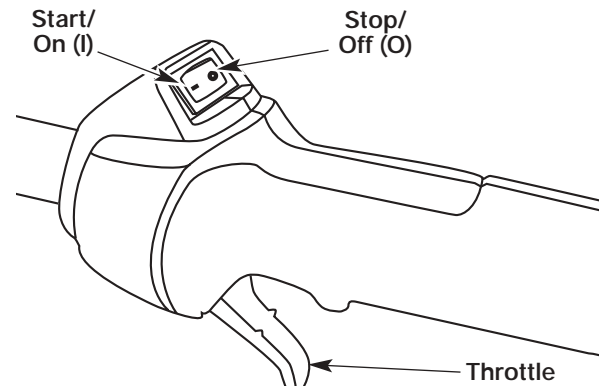

Fig. 3
2. Make sure the On/Off Stop Control in the ON (I) position (Fig. 3).
2. Put the On/Off Stop Control in the OFF (O) position (Fig. 3).